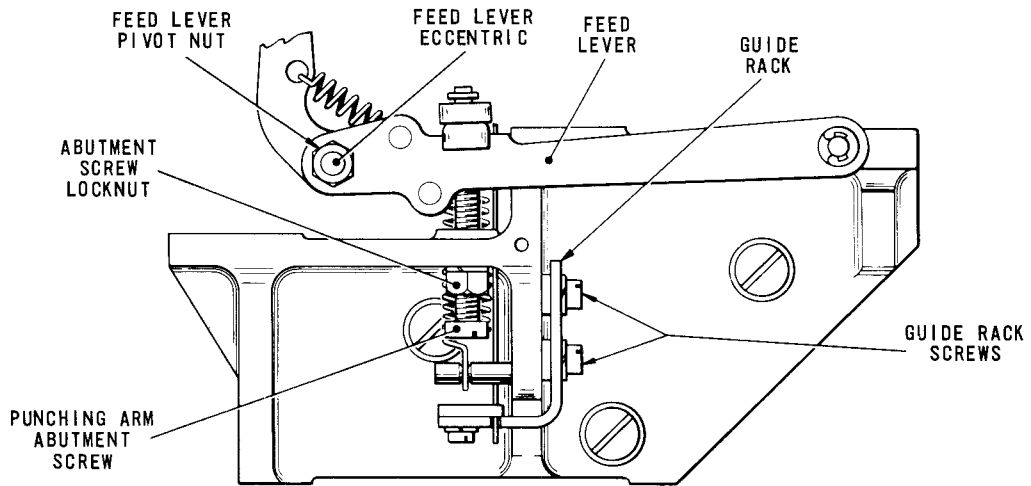

Fig. 4.78 FEED LEVER MECHANISM
- 92.2 If this is not so, slacken the screws securing the guide rack, Fig.4.78, and adjust the rack until the condition is satisfied. Tighten the rack screws.
- 94.3 With the machine in the rest position, adjust the punching arm adjustment screw, Fig.4.78, until the screw just touches the underside of the punching arm. Tighten the screw a further 1/4 of a turn and clamp it in this position with its locknut.
- 96.2 To adjust, slacken the feed lever pivot nut, Fig.4.78, and turn the feed lever eccentric until the correct clearance is obtained. Tighten the pivot nut.